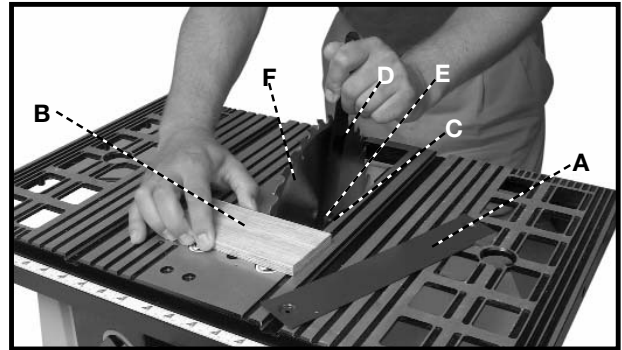

Fig. 41
2. Remove table insert (A) Fig. 41, and raise saw blade (F) to its maximum height.
3. To remove blade, place the wrench (D) on the flats of the arbor nut (C) to keep the arbor from turning. Place a piece of wood (B) flat on the table against the blade so that a tooth of the blade can “grab” the wood to keep the blade from turning. Use wrench to turn the arbor nut toward the front of the saw. Remove arbor nut, blade flange (E), and saw blade.
4. Assemble the new blade, making certain the teeth point down at the front of the saw table, and assemble outside blade flange and arbor nut. Using the piece of wood (B) to keep the blade from turning, tighten arbor nut by turning wrench (D) toward the rear of the saw.